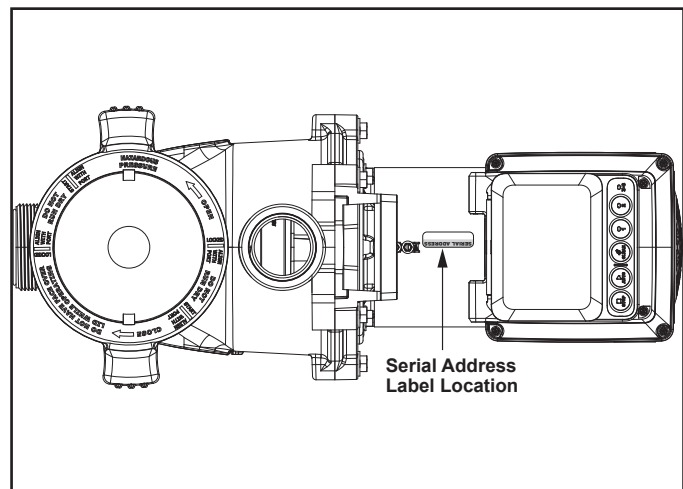

Figure 10. Serial Address Label Location
AquaLink RS systems using Rev W and later, manufactured after mid-year 2022, support of up to sixteen (16) variable-speed pumps that utilize a pre-assigned SERIAL ADDRESS. DIP Switches 3-4 are not utilized. Pumps in this manual are all assigned a unique SERIAL ADDRESS at the factory. The SERIAL ADDRESS label can be found on the pump motor (see Figure 10).